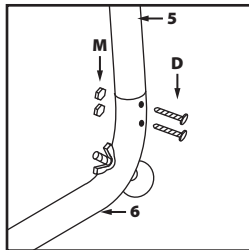

Fig. 8
- Select the components labelled **5** and **6**. Attach component **5** to **6** using the fixings labelled **D** and **M** (**Fig. 8**).